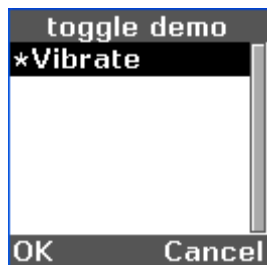

Figure 15 – Toggle Selected
Pressing the left softkey (OK) toggles the indicator, as shown in Figure 15, and turns on the vibrate feature of the OHV300. Pressing OK again turns off the indicator and the vibrate feature.